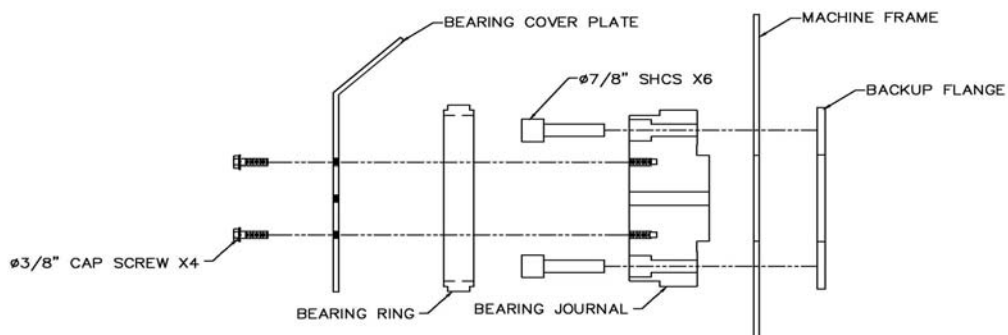

Fig. 5.8.J
- Remove the bolts that hold the cover plate to the journal and the bolts that hold the journal to the frame and backup flange. (See Fig. 5.8.J)